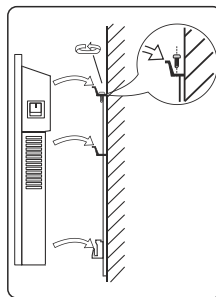

Fig. 5
7. Place the convector heater on the bracket matching 4 slots on rear surface with 4 shoulders on the bracket (Fig. 5) and pull down.